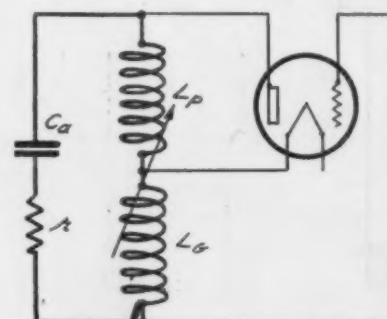

FIG. 5 MODIFIED HARTLEY
**Modified Hartley.** Fig. 5 shows the coupling of  $L_p$  and  $L_g$  to give the modified Hartley circuit. The strongest oscillations occur under the same conditions as in the Hartley. The formula for the frequency of oscillations becomes  $f = 0.159 \sqrt{L_p + L_g + 2M}$ , when  $M$  is the mutual inductance in henries between  $L_p$  and  $L_g$ , the portions the plate and grid inductances included in the oscillating circuit. As these are generally made up as a single coil with unavoidable coupling between them, the modified Hartley is more generally used than the Hartley.